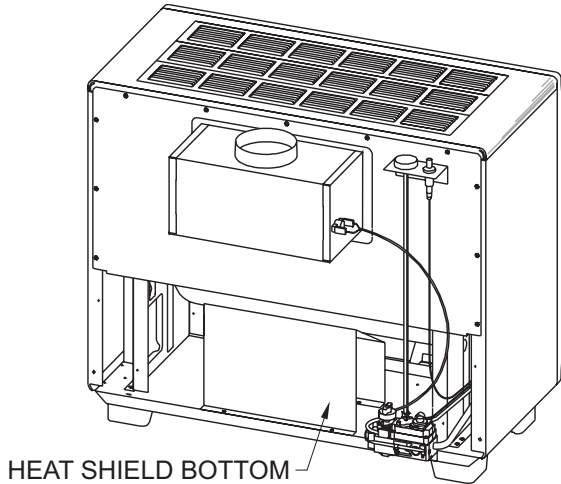

Figure 7
1. Two-piece shield: remove rear shield (2 screws) and bottom reflector (4 screws). One-piece shield: remove rear shield (4 screws). You can bend shield up slightly to access the two rear screws. **See Figure 7.**